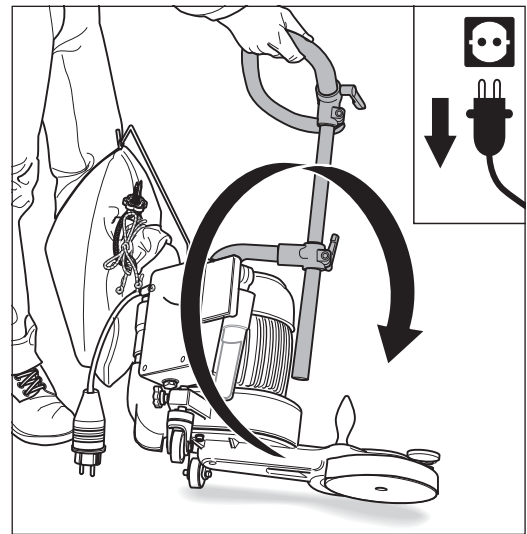
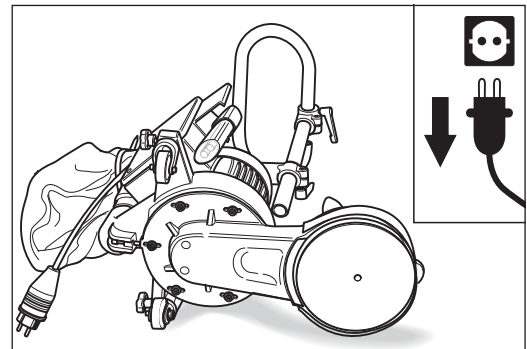

Fig. 56 Tilt the UNICO over to the **left-hand** side and set it down carefully.
Fig. 57 Place the UNICO down on the **left-hand** side only.
- 2 Place the UNICO on its side by grabbing the machine by the handlebar on the right-hand side and then tilt the machine over to the **left-hand** side (fig. 56) and set it down carefully. **Always** set the UNICO down on the **left-hand** side (fig. 57)! This will prevent damage to the floor, and the shape of the fan housing also stops any dust falling back out of the dust bag from getting into the fan housing.